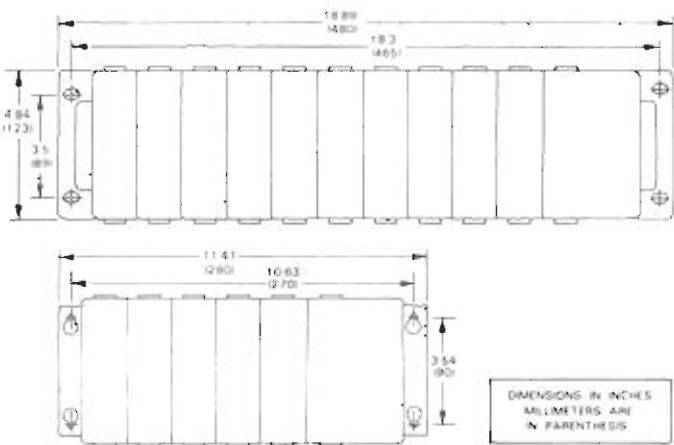

Figure 3.2 MOUNTING DIMENSIONS FOR 5 AND 10 SLOT RACKS
4. If a Series One expansion rack is required in order to add I/O capability to the system, either a 5 or 10-slot rack can be used to contain the I/O modules. Figure 3.2 provides an outline of both 5 and 10-slot racks, including required mounting dimensions.